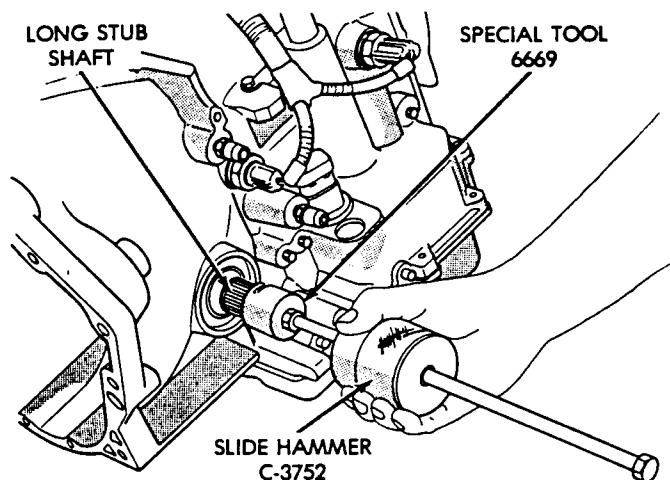

Fig. 1 Long Stub Shaft Removal
(1) Remove transaxle from vehicle. Refer to "Transaxle Removal and Installation" procedure in this section.
(2) Remove long stub shaft from transaxle (Fig. 1).